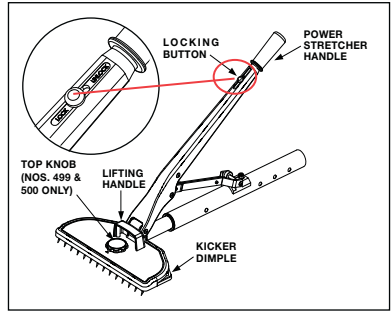

Figure 2
- C. You can lock the stretcher at any point by pushing the locking button forward to the position marked "LOCK". The handle also locks at the bottom of its downward movement. To release the lock, pull the button back to the position marked "UNLOCK". When lock is on, or when releasing lock, **DO NOT LIFT THE POWER HANDLE. DAMAGE TO STRETCHER MAY RESULT.** (See figure 2.)